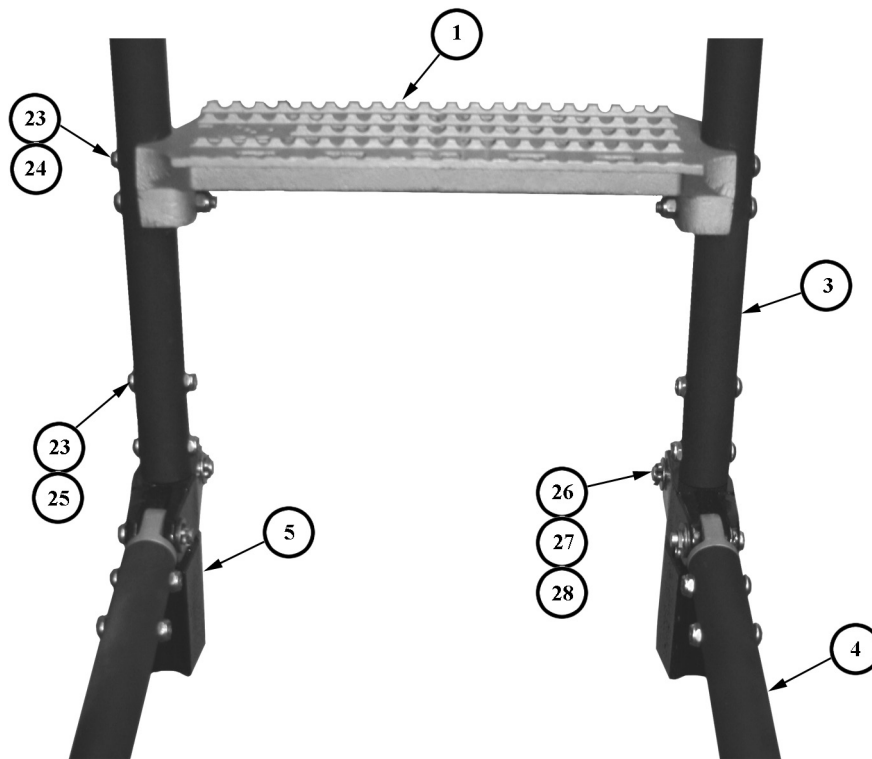
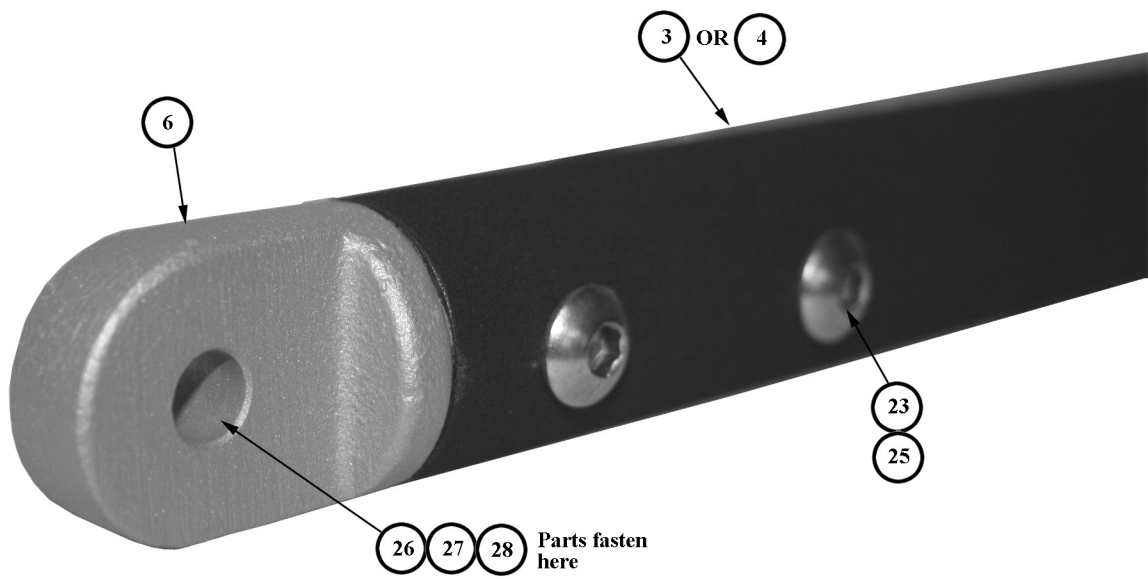
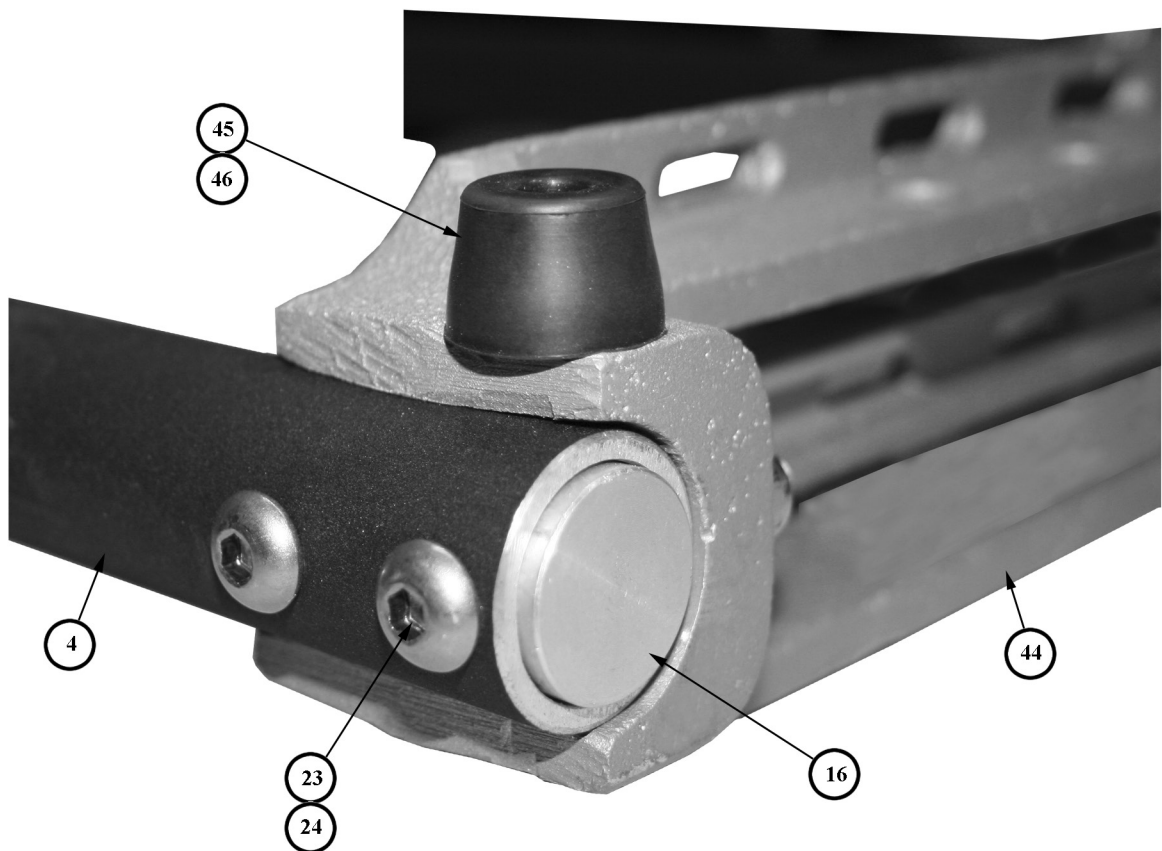

**FIGURE 1: UPPER BRACKET AND FIXED RAILS**
**FIGURE 3: FOLDING RAIL (FOREGROUND) ATTACHED TO MAIN RAIL**
**FIGURE 4: LOWER HINGE BRACKET ASSEMBLY**
Please record the serial number for your system here. The serial number may be found on the Upper Bracket (Figure 1, Page 5).
2. Attach Upper Brackets (Item 10, Figure 1, Page 5) and Fixed Rails (Item 2, Figure 1, Page 5) Assembly and Lower Hinge Brackets (Item 7, Figure 4, Page 6) Assembly to Main Ladder (Item 3, Figure 3, Page 6) Assemble using the hardware provided.
4. Drill holes to attach End Posts (Item 11, Figure 1, Page 5) to the Fixed Rails (Item 2), if not already done.
6. Drill holes for Upper Brackets (if not already completed) and Lower Hinge Brackets after locating the proper placement for the brackets. For the locking linkage to function properly the lower hinge brackets must be parallel to one another. The Lower Hinge Brackets should be mounted onto truck so that when the Folding Rail (Item 4, Figure 3, Page 6) is in the stored position, the center linkage hole between the Scissor Lock Link Out (Item 8, Figure 4, Page 6) and the Scissor Lock Link In (Item 17, Figure 4, Page 6) should be about halfway between the Main Ladder and the truck wall. Attach Upper Bracket and Lower Hinge Bracket to the truck.